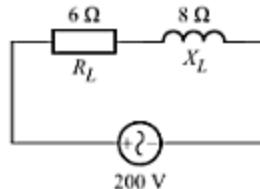

Fig. 10.14
7. For the ac circuit given in Fig. 10.14, the power factor is
8. The power consumed in the circuit of Fig. 10.14 is
9. The reactive power drawn in the circuit of Fig. 10.14 is
10. The apparent power drawn in the circuit of Fig. 10.14 is